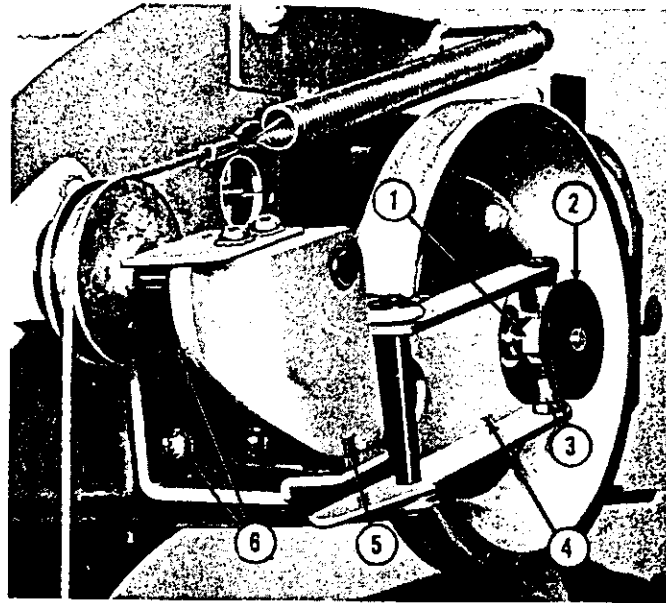
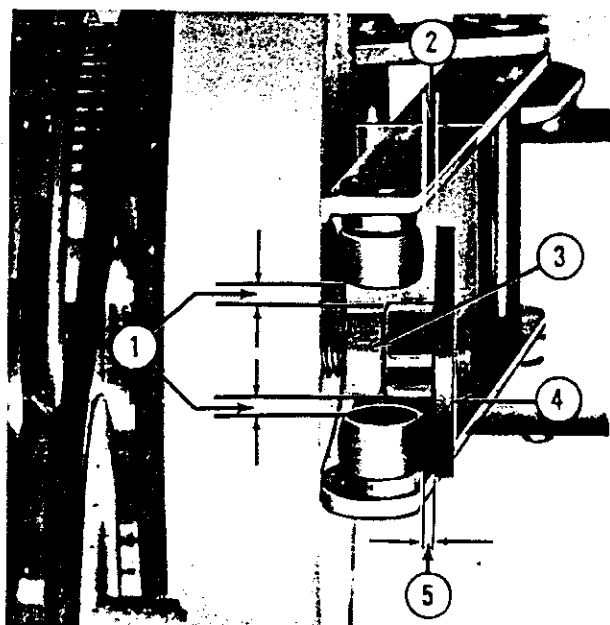

Fig. 85. RECORD CLAMP SETTING
Fig. 86. RECORD CLAMP SETTING
r. Record Clamp Setting. (Figs. 85, 86, and 87)
The turntable release arm is pivoted on a bracket which is mounted on the back plate of the top support casting. The turntable release arm rollers must be centered around the hub of the record clamp plate. This is done by loosening the two mounting screws (Item 6, Fig. 85) and shifting the mounting bracket to provide equal distance of the two rollers from the hub of the record clamp plate, as shown in (Fig. 86), and re-tightening the mounting screws. The centering of the release arm rollers, described above, should be carefully re-checked before completing the record clamp adjustments which follows:
(1) Advance the cycle of the record changer to the full extent of the record clamp cam rotation as shown in Figure 85, and at the same time, clamp record disc X42226 on the turntable.
(2) Loosen the lock nut (Item 1, Fig. 85) and adjust record clamp plate (Item 2) to provide 1/32" to 1/16" clearance as shown at Items 2 and 5
of Figure 86. Maintain the clearance described above, tighten the lock nut, and re-check the adjustment.
(1) From the "at rest" position, advance the cycle of the record changer to a point where the record clamp just actuates to hold the record in place on the turntable, and turn off the power.
(2) Manually release the record clamp by pulling back on the record clamp plate (Item 4, Fig. 86) and clamp disc X42226, facing to the rear, on the turntable.